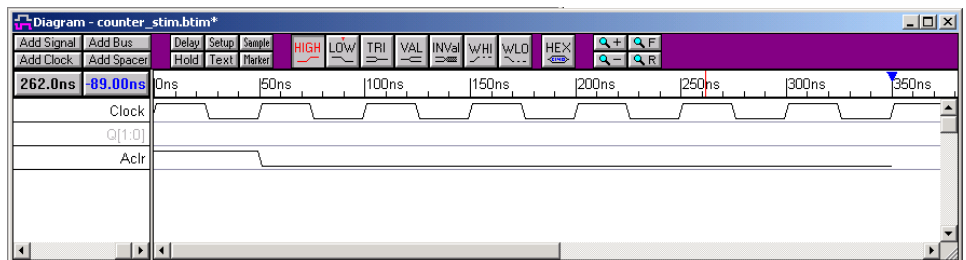

Figure 3-15. counter_stim.btim File with Clock and Aclr Signals
5. Click and drag in the Aclr signal to draw a low segment from 50 ns to 350 ns (Figure 3-15).